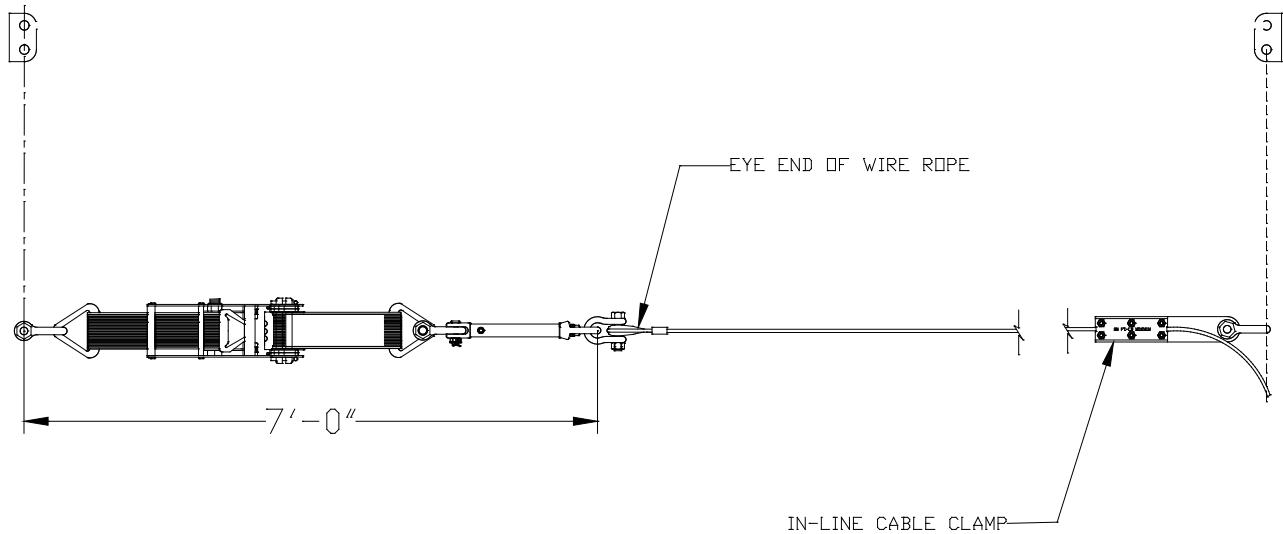

Fig. 8 Skyline™ Horizontal Lifeline Layout
16. Position the eye end of the wire rope so that it is about 7-ft. (see Figure 8) away from the location of one of the anchor lugs on an End Stanchion.